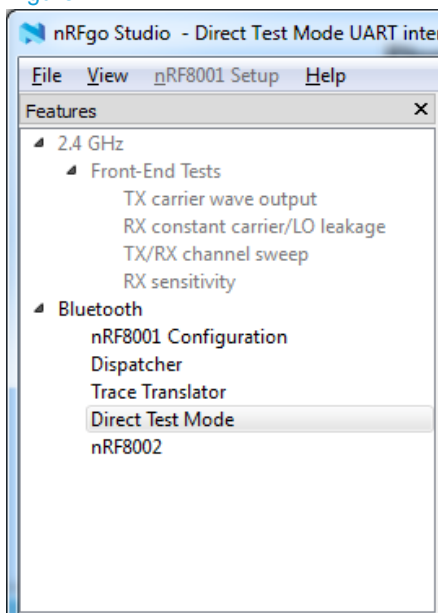

Figure 11: Opening the Direct Test Mode panel
2. In nRFgo Studio, click **Direct Test Mode** in the features panel to open the Direct Test Mode panel as shown in Figure 11.